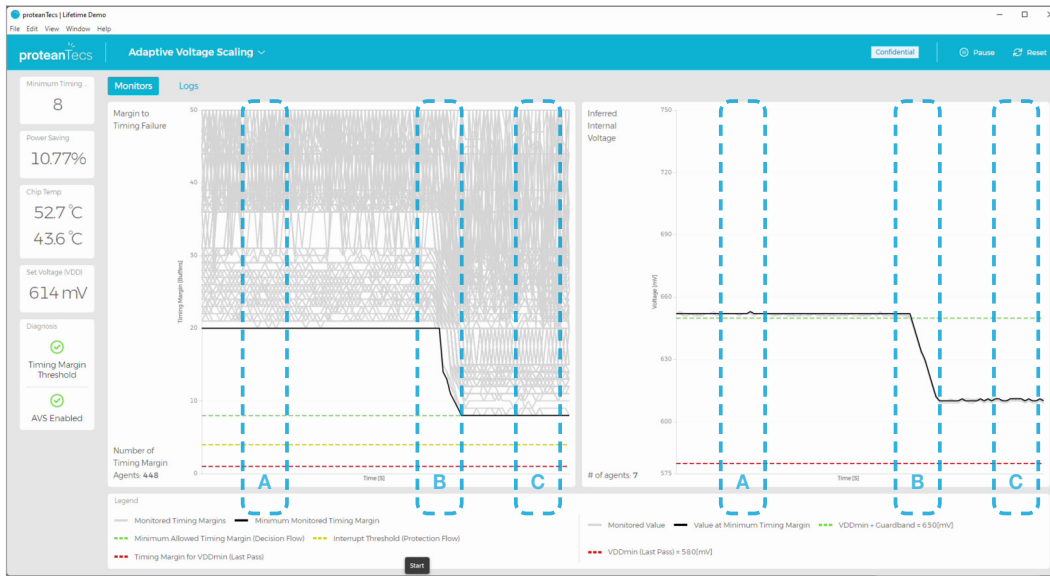

Figure 9: AVS Pro voltage optimization in a real system
**Figure 9** shows the results of a real system, where the timing margin data and the internal DC voltage are extracted from the device (by proteanTecs Agents) to show the AVS Pro operation on a dashboard.